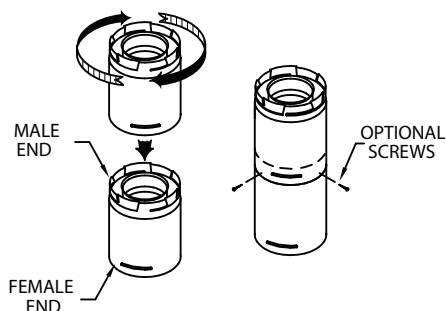

Figure 5
(1) Twist-lock procedure: Line up locking lugs on male and female ends of pipe sections. Insert the male end of pipe into the female end until the locking lugs are covered. Twist the female end clockwise an eighth of a turn to lock sections together (**Fig. 5**). Screws are not required to secure the joint, but are acceptable provided they do not penetrate the inner wall of the vent pipe.
(2) Horizontal runs of vent pipe must be supported to prevent any downward sags. Horizontal pipe sections should be supported at least every 4-feet. Wall Straps can be used for this purpose. Alternatively, plumbers tape or other suitable noncombustible material can be used to support the vent pipe.
(3) DirectVent Pro venting requires no sealant, unless specifically required by appliance manufacturer.